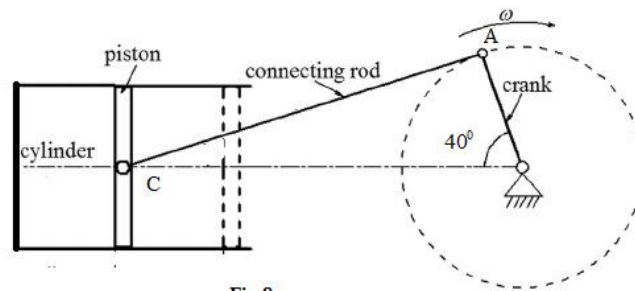

Fig.8
- 15 a) State D'Alembert principle giving the equation. (3)
- b) In a crank and connecting rod mechanism shown in Fig.8, the radius of the crank is 300mm and the length of the rod is 1500mm. The crank is rotating at 300rpm. Determine the following, when the crank makes an angle 40° as shown in Fig.8: (7)